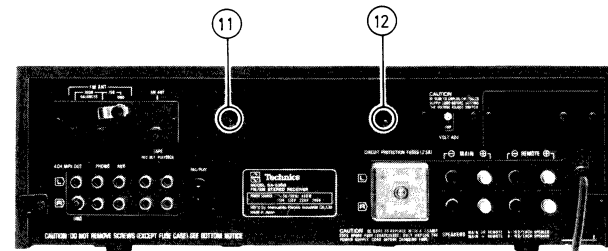

Fig. 3
3. Remove two (2) heat sink-mounting screws of rear panel, nos. ⑪ and ⑫ as shown in fig. 3.
6. Remove two (2) heat sink-mounting screws, nos. ㉘ and ㉙ as shown in fig. 3.